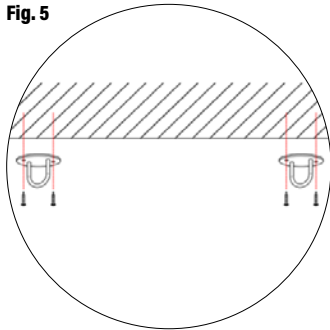

Fig. 6
2. Use screw driver to the lift and straighten the hanging tabs. (Fig. 6)